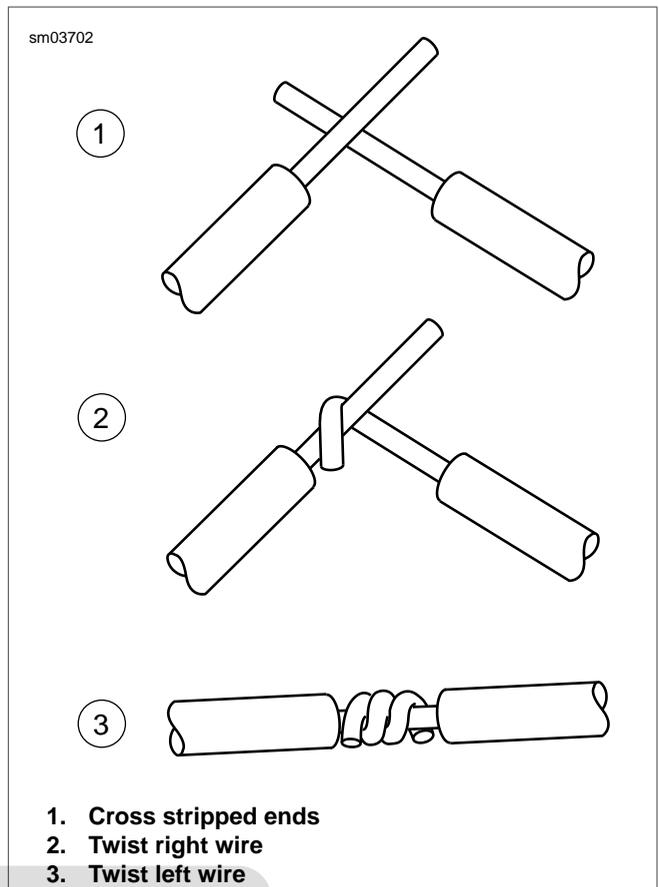

Figure 8-145. Splice Switch Wires
4. See Figure 8-145. Matching wire colors, mate old and new switch wires and splice as follows:
- a. Hold the wires so that the stripped ends cross (1). Note that the wire on the left is on top and two-thirds of its stripped length lies beyond the point where they intersect. Looking at the other wire, only 1/3 of its stripped length lies beyond the intersection point.
- b. Holding the wires together at their juncture, start the splice by tightly twisting the top one-third length of the right hand wire over the left (2).
- c. Tightly coil the remaining two-thirds of the left hand wire around the right (3).